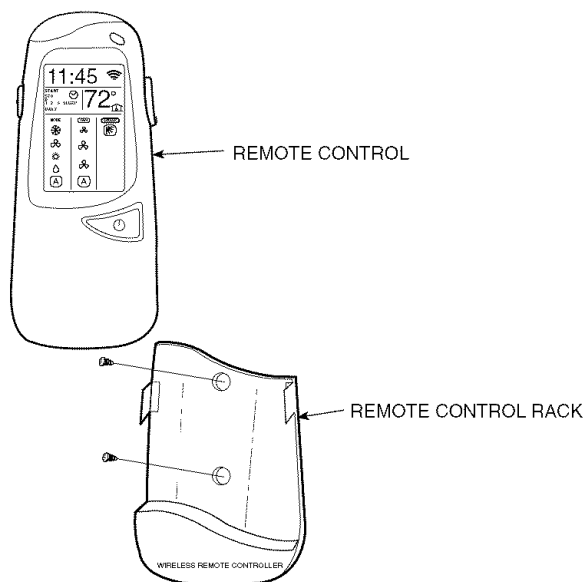

Fig. 11 — Attach Rack to the Wall
1. Use the two screws supplied with the controller to attach the rack to the wall in the location selected by the customer (see Fig. 11).